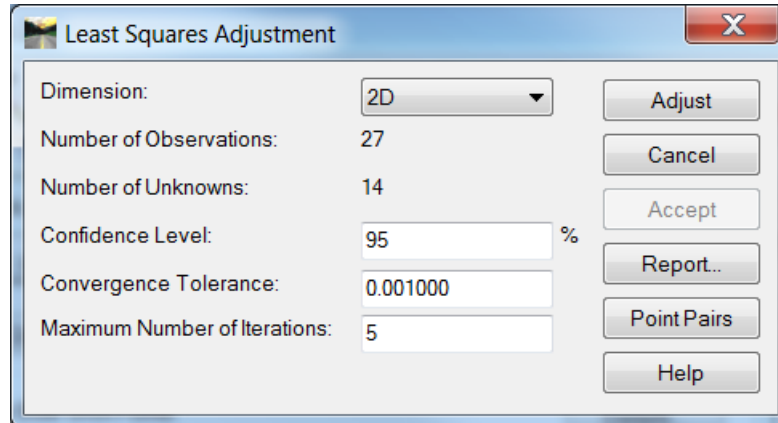

Figure 2-9 InRoads Least Squares Adjustment Dialog Box
- E. Match the dialog with the one shown in Figure 2-9 and select **Adjust**.